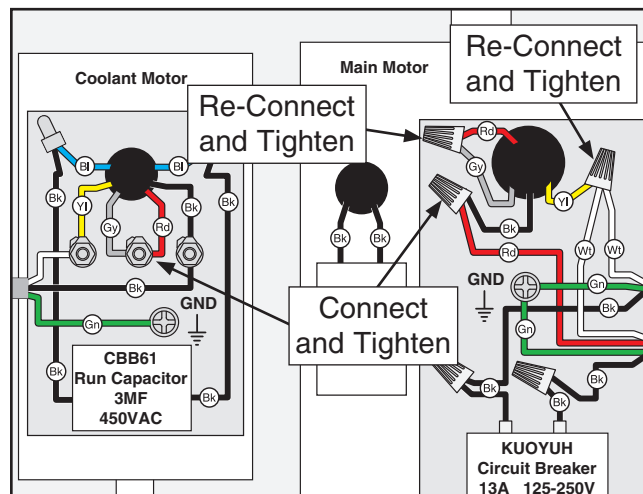

Figure 5. Motor wires repositioned for 220V.
4. Connect the main motor wires, as shown in **Figure 5**, with wire nuts. Once snug, wrap electrical tape around each wire nut and the connected wires, to reduce the likelihood of the wire nut vibrating loose during motor operation.
5. Connect the wires on the coolant motor as shown in **Figure 5** at the center terminal nut.